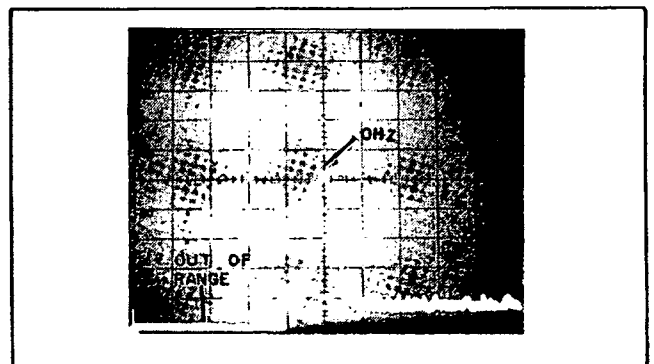

Figure 4-14. Frequency Out of Range.
4-102. **Out of Range Detector.** As illustrated in Example 3, certain combinations of FREQUENCY and FREQ SPAN settings cause the voltage at the output of the Dial Mixing Amplifier to go below the 0 V (0 Hz) lower limit or above the +9 V (50 kHz) upper limit. When either limit is exceeded, the VTO frequency is driven out of range. This could cause erroneous responses to appear on the display. The Frequency Out-of-Range Detector senses when the Dial Mixing Amplifier output is more negative than 0 V or more positive than +9 V and, in turn, generates an (L)Data flag which is applied to the Digital Storage section. In the Digital Storage section, the (L) Data flag clears the memory locations where the frequency is out of range. As a result, a clean baseline appears on the display (Figure 4-14).